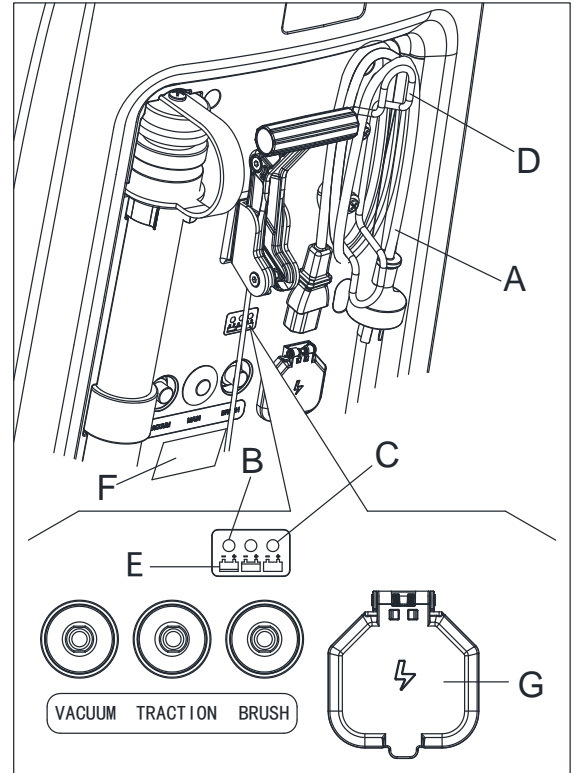

Figure 15
3. Turn the ignition key (H) to "0".
4. Carefully lift the tank (B).
- Check the level of electrolyte inside the batteries (D); if necessary, top up through the caps (E).
- Leave all the battery caps (E) open for next charging.
- If necessary, clean the upper surface of the batteries (D).
7. Connect the battery charger cable (A, Figure 15) to the electrical mains (G) (the electrical mains voltage and frequency must be compatible with the battery charger values shown on the machine serial number plate (F)). When the battery charger is connected to the electrical mains, all machine functions are automatically cut off. If the red warning light (B) on the battery charger control panel stays on, the battery charger is charging the batteries.
8. When the green warning light (C) turns on, the battery charging is completed.
9. When the battery charging is completed, disconnect the battery charger cable (A) from the electrical mains (G) and wind it round its housing (D).
For further information about the operation of the battery charger (E, Figure 15), see the relevant Manual.